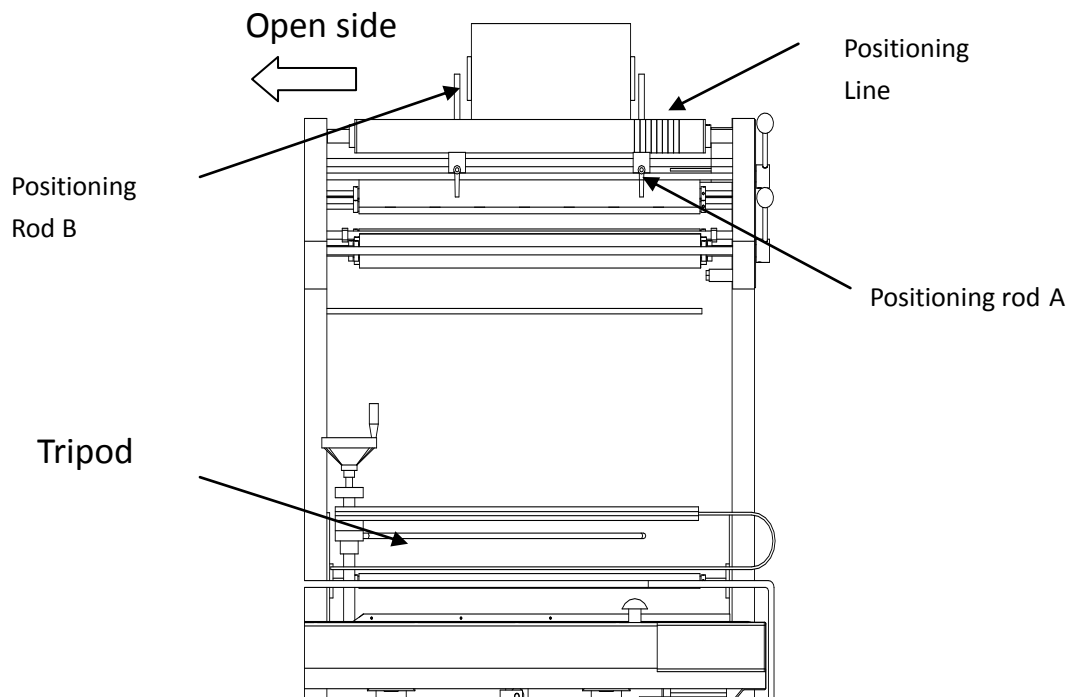

Figure 5.3
Select the "automatic page" and the submenu appears as shown in Figure 5.3
(5) Load shrink film to the film fixing roller.
A. As shown in Figure 5.3, the shrink film is placed on the film feed roller.